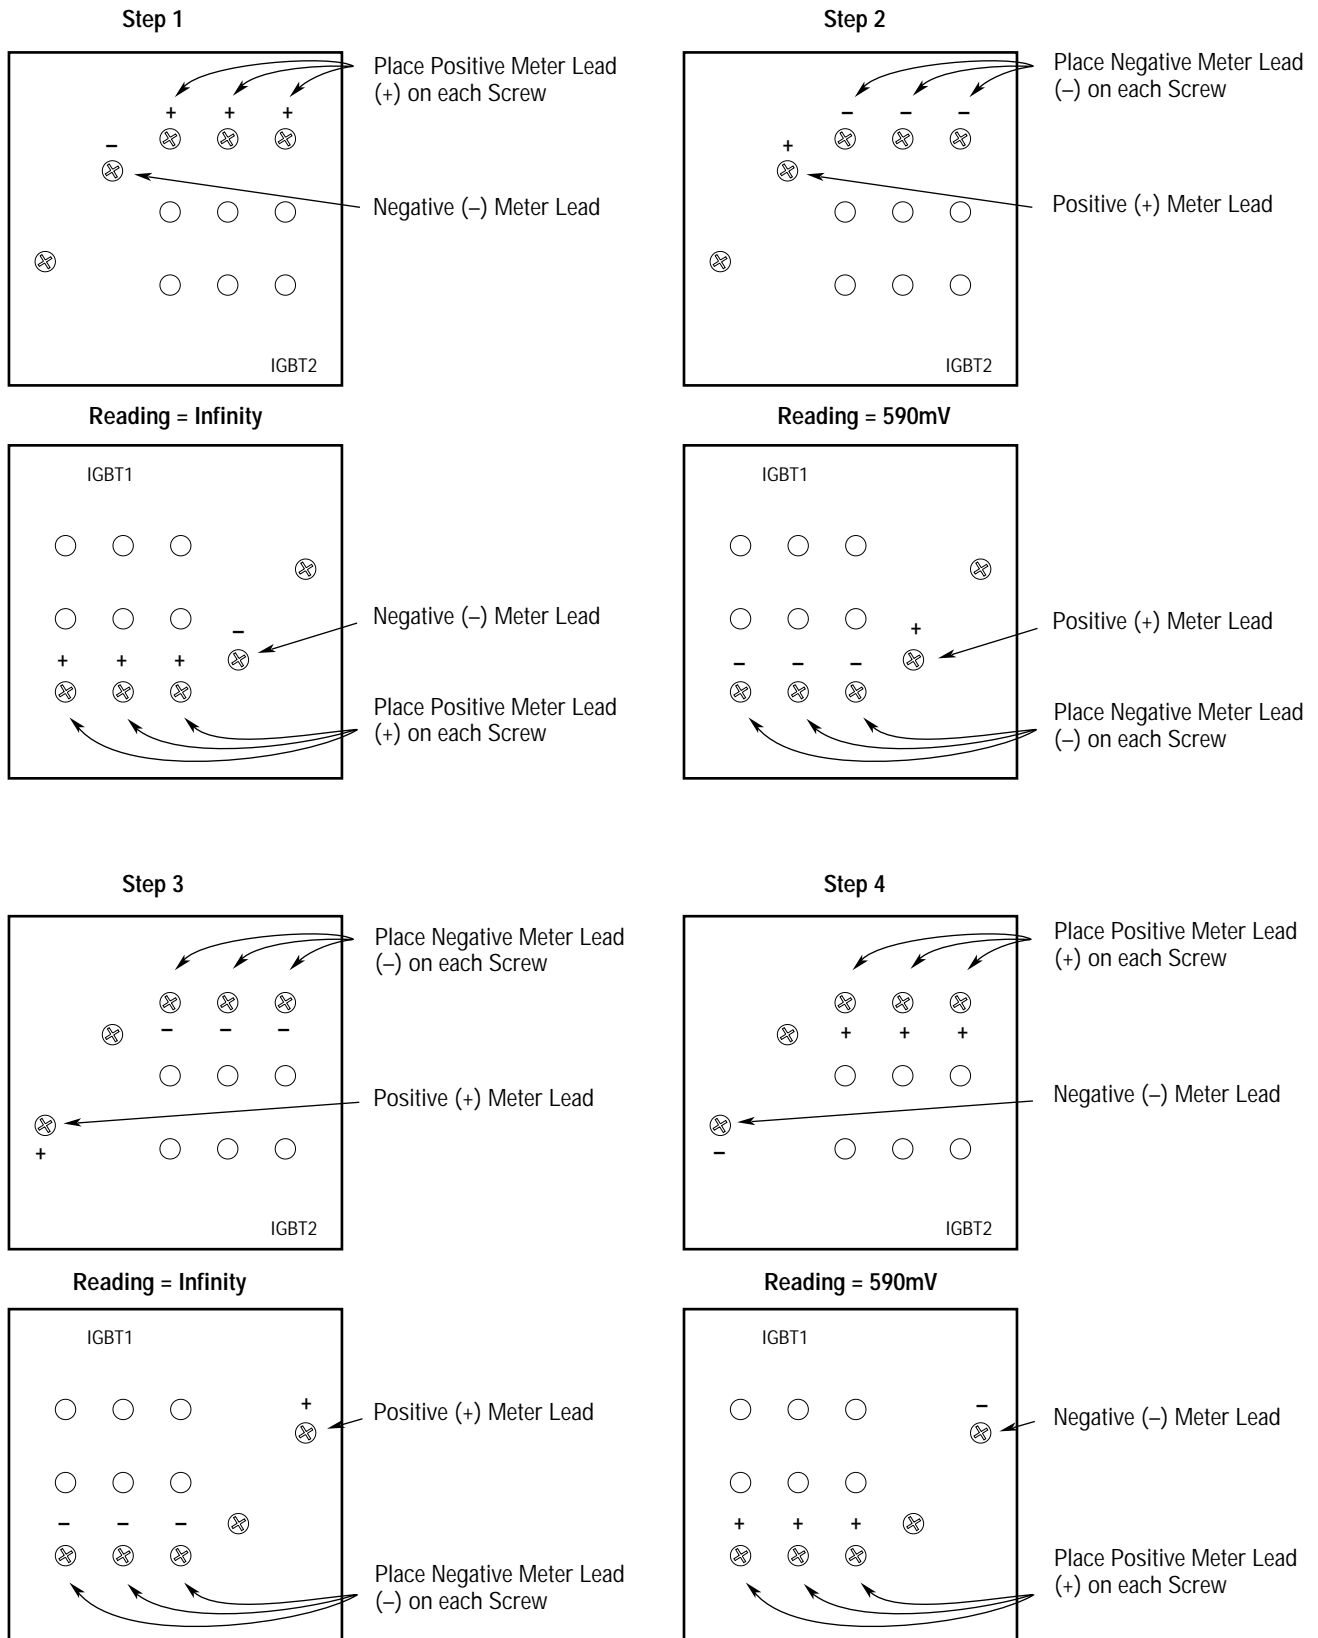

Figure 11.6
4. The 8510A-A04 and A06 drives have two modules, while the 8510A-A11 and A22 drives have six. For proper testing, each module must be checked four different ways. The procedure for 8510A-A04 and A06 drives is shown in Figure 11.5. The procedure for 8510A-A11 and A22 drives is shown in Figure 11.6.